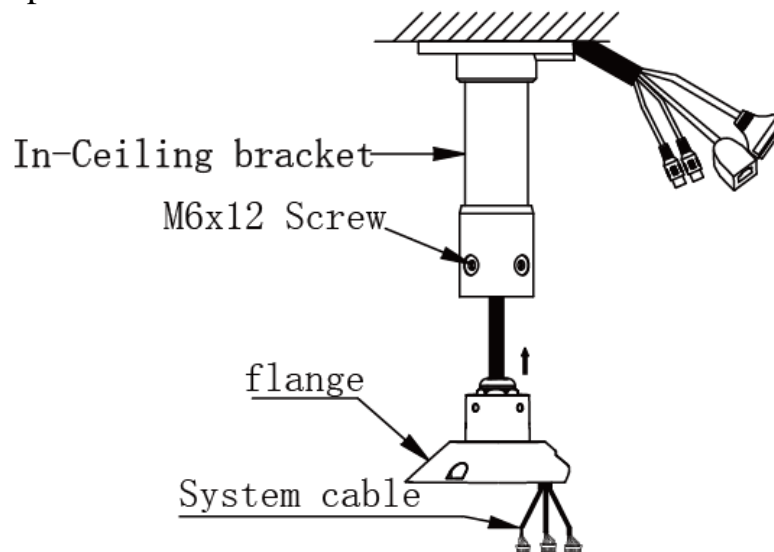

Figure 7
4. Select the mounting location and punch the hole on the mounting surface, loosen 2 pieces M4X15 screws of the mounting flange and the dome, open flange, remove the cable. Will be equipped with a dome integrated cable flange mounted to the ceiling mount bracket, the inside integrated cable of the dome through the ceiling bracket, let flange snapping direction to the arrow until it withstand the ceiling mount bracket, tighten the hexagon 4 pieces M6X12 stainless steel screws as shown in figure 7.